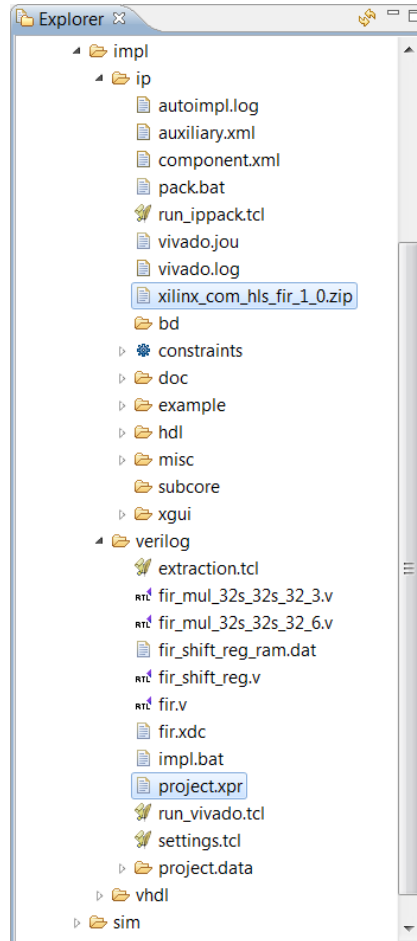

Figure 16: RTL Verification Results
6. Expand the **ip** folder and find the IP packaged as a zip file, ready for adding to the Vivado IP Catalog (Figure 16).
Also note, in **Figure 16**, that if you expand the Verilog or VHDL folders inside the `impl` folder, there is a Vivado project ready for opening in the Vivado Design Suite.